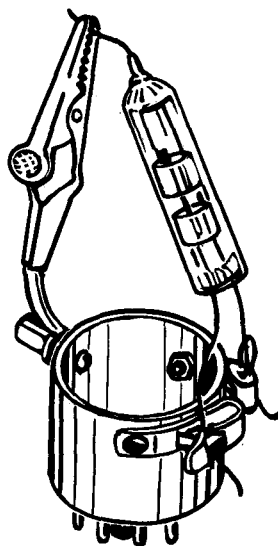

Fig. 27 — Sylvania
**Testing 5642 h-v rectifier tubes (see Fig. 27).**